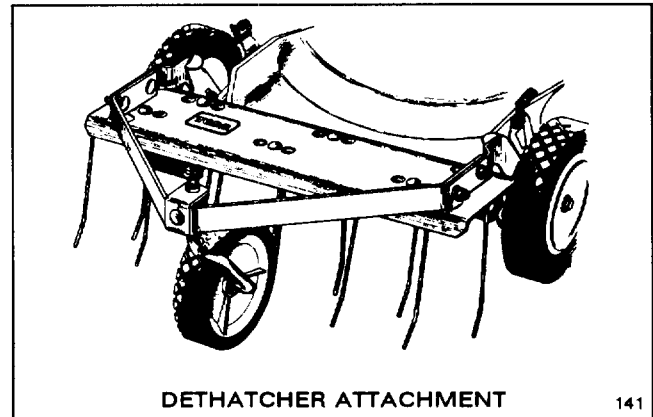

Figure 24
2. **Dethatcher Kit, Model No. 59131**—As spring tines on the Toro Dethatcher (Fig. 24) scratch and vibrate through the grass, thatch is loosened and cut and recut by the mower.